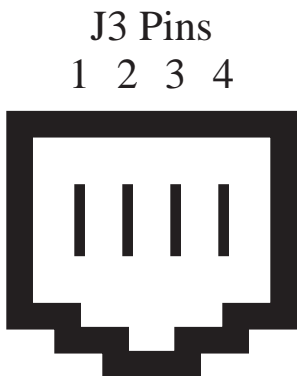

Figure 4-2: J3 - RJ-11/RS-422 Jack Pinout
- Figure 4-2 on page 31 provides the pinouts for J3, the RJ-11/RS-422 Network Connection